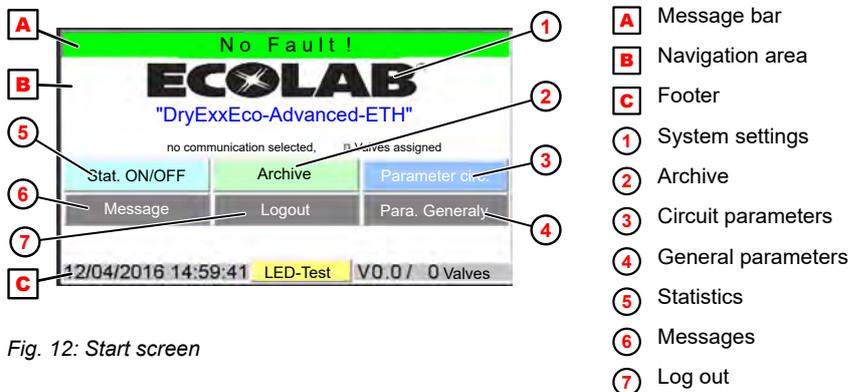

Fig. 12: Start screen
- Press the  button. The screen returns to the start screen ( Fig. 12 ).